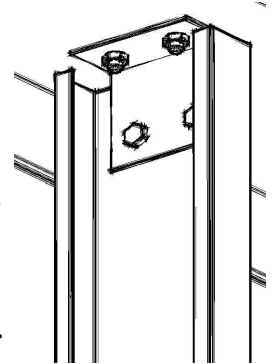

FIGURE 4
- d. Attach the Clips, (Part SC-011-GV), to both ends of the Vertical Channels with (2) $\frac{3}{8}$ " diameter bolts. The 3" leg of the clip attaches to the Vertical Channel.
- e. Using $\frac{3}{8}$ " diameter bolts, attach the tabbed end of the Vertical Channel, open "C" facing toward the center, to the drilled girt holes. Level and plumb the Vertical Channel in both directions. Using the top connection clip, mark the hole locations and drill $\frac{7}{16}$ " diameter holes in the upper girt or eave strut. Bolt together with $\frac{3}{8}$ " bolt/nuts. (Figure 4) Repeat for other Vertical Channel.